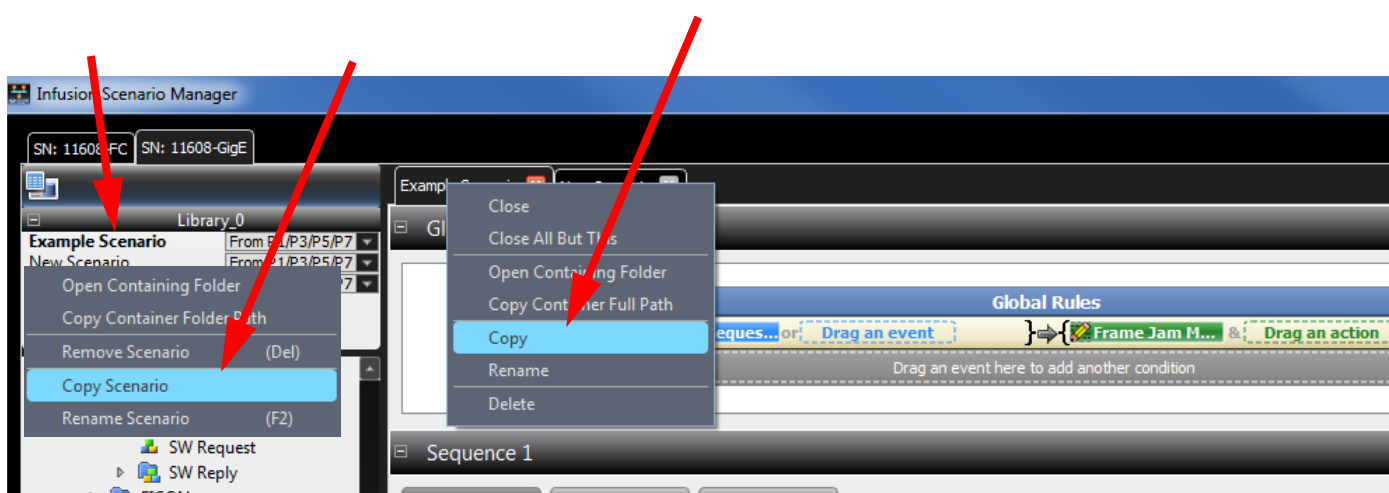

Figure 4.19: Copy Scenario
1. Select the scenario you want to copy in either the scenario name tab and select **Copy** or in the Library pane, right-click and select **Copy Scenario** (see Figure 4.19 on page 200).